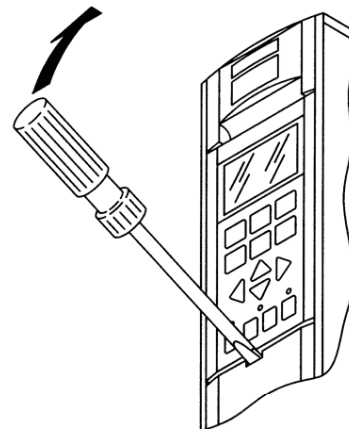

FIGURE 5 - VFD66 CONTROL TERMINAL BLOCKS
9. Remove the terminal access cover. See Figure 5.